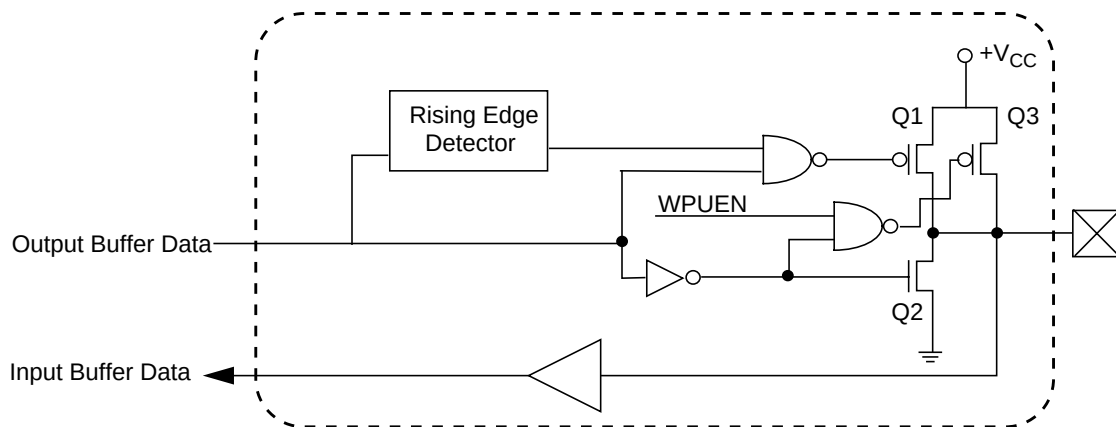

Figure 37. Quasi-Bidirectional Buffer
The quasi-bidirectional drivers have an open-drain output (Q2), an internal pull-up (Q3) and a low-impedance pull-up (Q1). Q2 pulls the signal low whenever the output buffer data is "0". The weak pull-up (Q3) is active whenever the output buffer data is "1" and WPUEN in PSCON register is set (1). The low impedance pull-up is active whenever the PC87591x changes the output data buffer from "0" to "1", thereby reducing the low-to-high transition time. The length of time that the low-impedance pull-up is active is determined by HDRV field in PSCON register. A schematic description of this output driver appears in Figure 37.